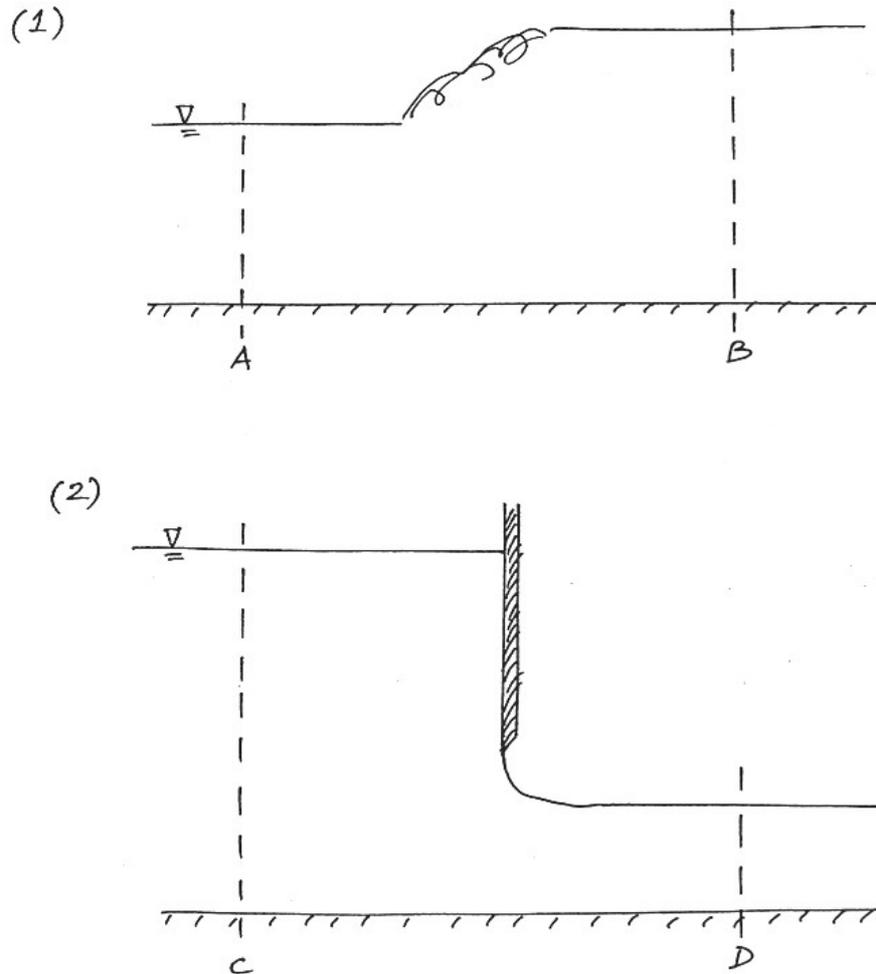

Figure 6: (1) Hydraulic jump and (2) flow under a gate in Problem 6.
The sketches (1) and (2) in Figure 6 depict two different phenomena. Sketch (1) shows an unassisted hydraulic jump from point A to point B ; sketch (2) shows flow under a gate from point C to point D . For each flow phenomenon, show the location of these points on the h vs. E and the h vs. MP diagrams, which are provided on next page (Figure 7).